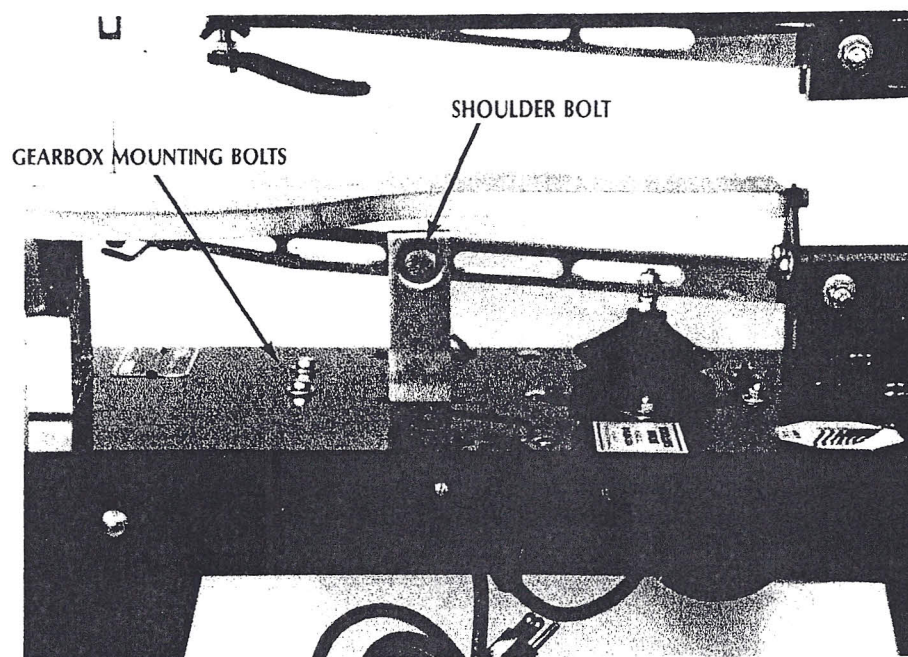

FIG. 18
4. Remove shoulder bolt connecting (HA-53) lower arm and (HA-69) pitman arm. (fig. 18)